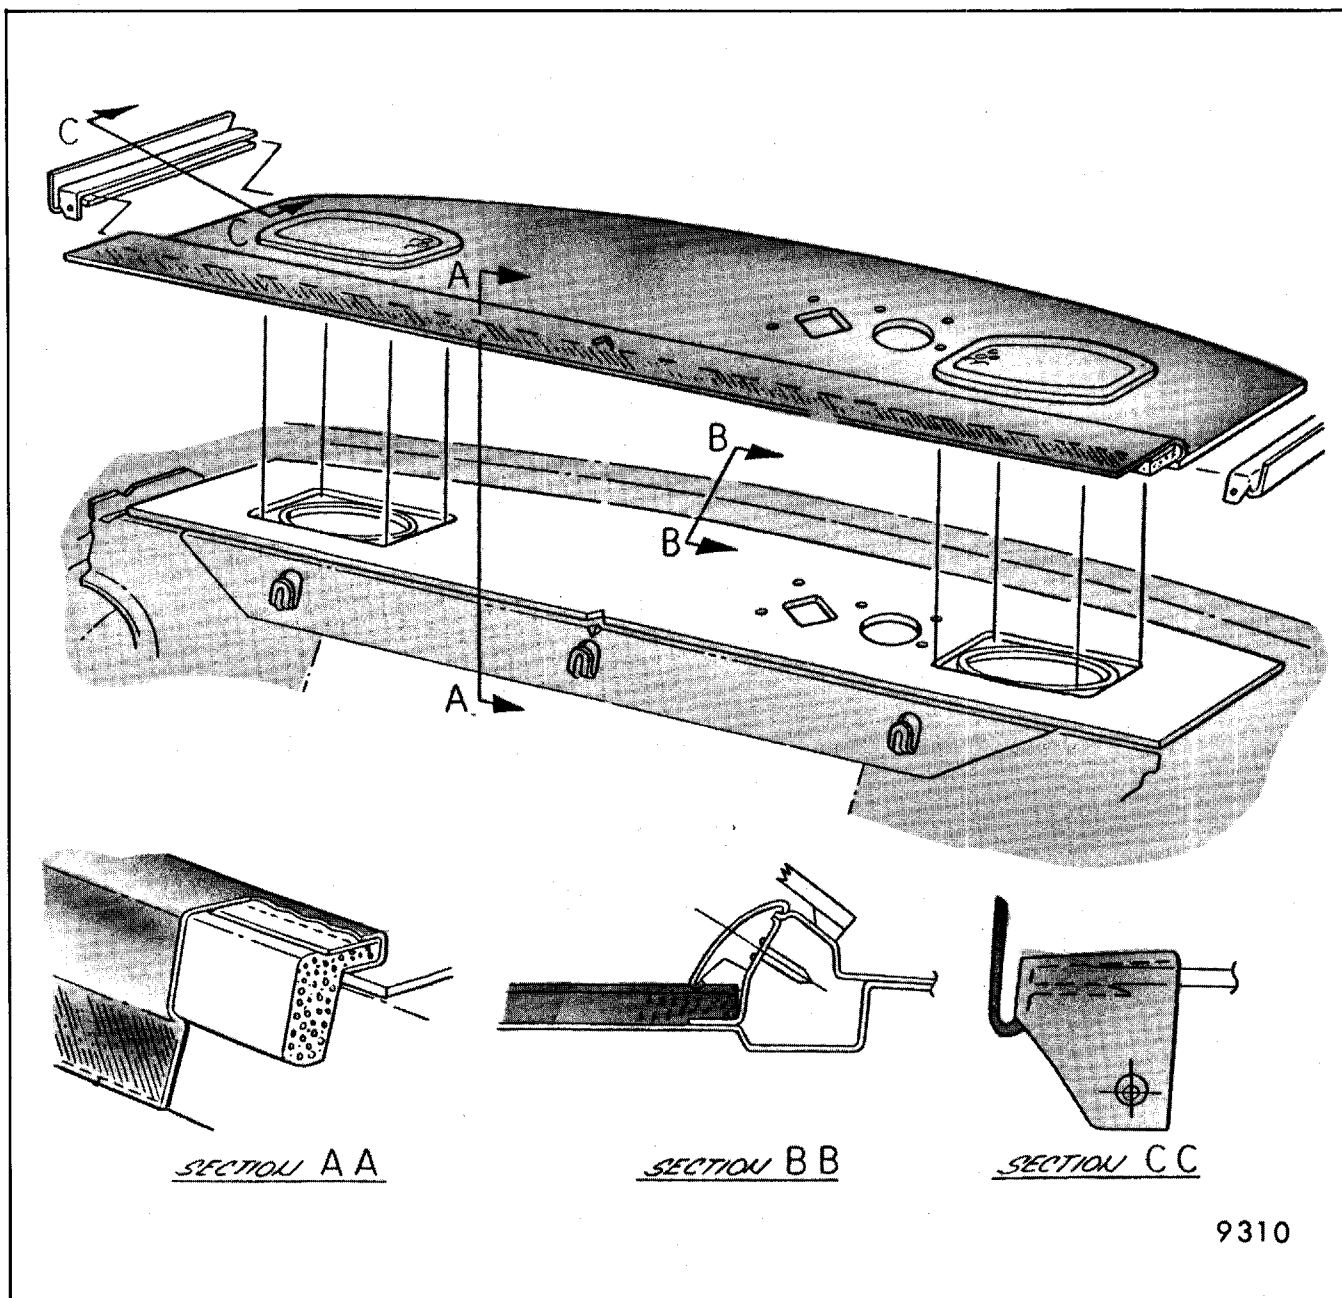

Fig. 9-82-Rear Seat to Back Window Trim Finishing Panel - "B- 69" Style Shown (Other Styles Similar)
7. Carefully break cement bond securing trim assembly at seat back panel (Fig. 9-82).
and align front edge of trim assembly with front edge of seat back panel as shown in Figure 9-82. With nonstaining vinyl trim adhesive, cement valance of trim assembly to seat back panel as shown. Install attaching screws if present, then reverse balance of removal procedure.